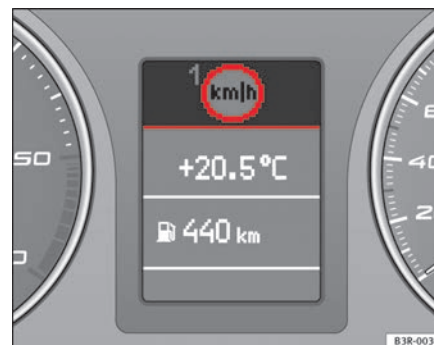

Fig. 55 Display: Speed warning function
The speed warning function will warn the driver if a pre-set maximum speed is exceeded. The system gives an audible warning signal if the set speed is exceeded by about 10 km/h. A warning symbol will also appear in the display ⇒ fig. 55.
The speed limit warning symbol  for speed warning 1 \Rightarrow page 81, fig. 55 will appear in the display if you exceed the pre-set speed. It goes out again if the speed is reduced below the set speed limit.
- Press the CHECK button and hold it down until the symbol \Rightarrow page 81, fig. 55 appears.